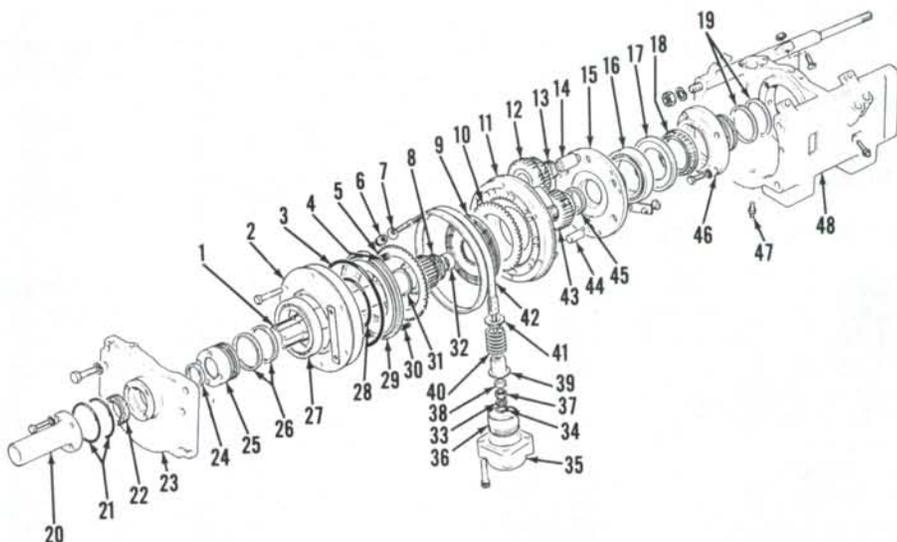
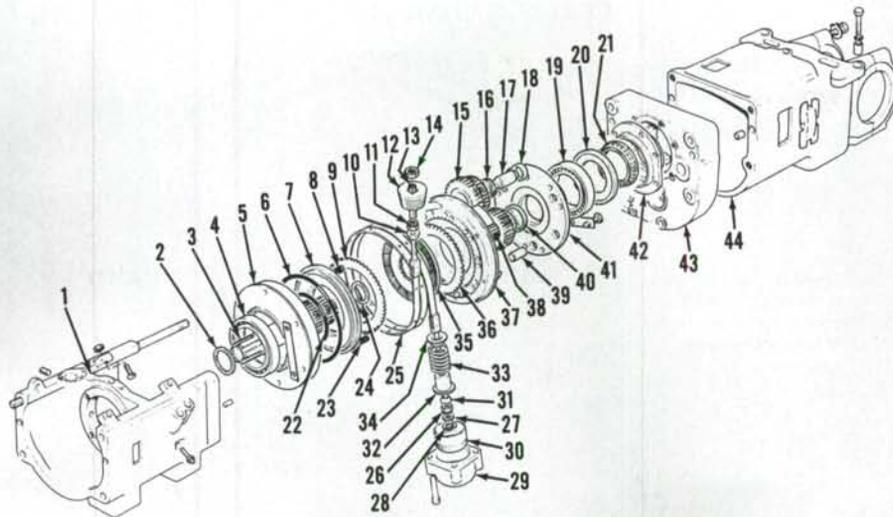
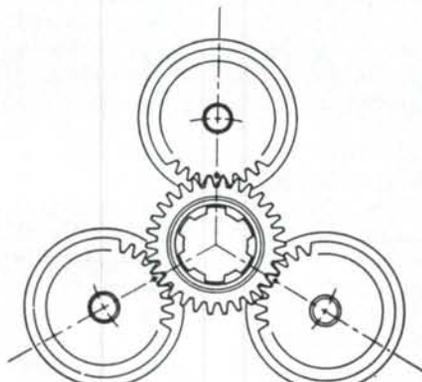

Fig. 196—Exploded view of front planetary assembly of power shift transmission. See Fig. 197 for view of rear planetary assembly.
Fig. 197—Exploded view of rear planetary assembly of power shift transmission. See Fig. 196 for view of front planetary assembly.
Fig. 198—Planet gears must be timed as shown with punch marked tooth of each gear pointing towards center of sun gear.
(20—Fig. 196) and front cover (23). Disconnect brake line from front planetary brake cylinder (35) and remove cylinder. Loosen front brake band locating screws and remove brake band adjusting nuts (6 and 37). Remove sleeve (39), spring (40) and seat (41). Withdraw input shaft (1), then remove brake band (42) and lift front planetary unit from center housing. Remove hydraulic line for planetary brake cylinder from center carrier. Remove spacer plate (17) and sprag clutch (18).
Turn center housing over, then remove rear brake band and rear planetary assembly (Fig. 197) from housing in same manner as front unit. Unbolt and remove bearing carrier (46—Fig.
196) from center housing. Remove spacer (20—Fig. 197), sprag clutch (21) and carrier (42) from rear end housing (43) if necessary.
**261. FRONT PLANETARY OVERHAUL.** Mark clutch cylinder (2—Fig. 196), carrier (11) and end cover (15) so they can be reassembled in their original positions. Remove mounting bolts, then separate clutch cylinder from planetary carrier. Remove piston (29) from cylinder and remove and discard "O" rings (3 and 28). Remove inner and outer springs (4 and 30). Remove clutch plates (5, 9 and 10) keeping plates together for use in reassembly.
Install planetary gear pins, bearings and gears in their original positions with gear timing marks pointing toward center of carrier. See Fig. 198. Install sun gear aligning timing marks as shown. Install thrust washer (45—Fig. 196), with oil groove facing up, into endcover (15). Install end cover over planetary gears aligning marks made during disassembly. Tighten mounting bolts to 40 N·m (30 ft.-lbs.) torque and secure with locking plates.
**262. REAR PLANETARY OVERHAUL.** Mark clutch cylinder (5—Fig. 197), carrier (37) and end cover (41) so they can be reassembled in their original positions. Remove clutch cylinder mounting bolts and separate planetary halves. Remove inner and outer springs (8 and 23). Remove piston (7) from cylinder and remove and discard "O" rings (6 and 22).
Install new bearing (4—Fig. 197) on clutch cylinder (5). Lubricate "O" rings (6 and 22) and install on piston, then carefully install piston into cylinder. Install inner springs (8) and apply grease to hold springs in position during assembly.
Install bearing pins (17) in carrier (37) making sure they are in their original positions. Assemble a short bearing (16), thrust washer (18) with oil groove facing away from short bearing and a long bearing onto bearing pins. Install planetary gears on their original pins with gear timing marks pointing toward center of carrier. See Fig. 198. Place thrust washer in sun gear counterbore with oil groove side of washer facing up. Install sun gear with thrust washer towards carrier aligning timing marks as shown in Fig. 198. Install new bearing (19—Fig. 197), if removed, on end cover (41) and position thrust washer (40) in cover. Position end cover over planetary gears aligning assembly marks made during disassembly. Tighten mounting bolts to 40 N·m (30 ft.-lbs.) torque and secure with locking plates.
Install outer clutch springs (23—Fig. 197). Align assembly marks and install cylinder (5) on carrier. Tighten mounting bolts to 27 N·m (20 ft.-lbs.) torque, then bend corners of locking plates against bolt heads.
**263. CENTER CARRIER AND FRONT COVER.** Inspect sealing rings (19—Fig. 196) in bearing carrier (46) and renew as necessary.
Renew thrust washer (31—Fig. 196), bushing (32) and oil seal (8) in front input shaft (1) if necessary. Be sure to install thrust washer with oil groove side towards gear.
Pry oil seal (22—Fig. 196) from front cover (23). Remove seal rings (26) from front support sleeve (25). Remove sleeve mounting bolts and remove sleeve from front cover if renewal of bushing (24) is necessary.
Install new bushing (24) flush with inner face of support sleeve (25). Apply gasket sealer to mounting surface of sleeve, then install and tighten bolts to 20 N·m (15 ft.-lbs.) torque. Install sleeve sealing rings (26) with chamfered side up on top ring and chamfered side down on bottom ring as shown in Fig. 200. Install new front oil seal (22—Fig. 196) with lip facing inward.
Install front cover and tighten mounting bolts to 20 N·m (15 ft.-lbs.) torque. Install new "O" rings (21—Fig. 196) on support sleeve (25) and tube (20). Position support tube (20) on front cover so oil hole in tube is towards bottom of power shift housing and tighten mounting bolts to 12 N·m (9 ft.-lbs.) torque.